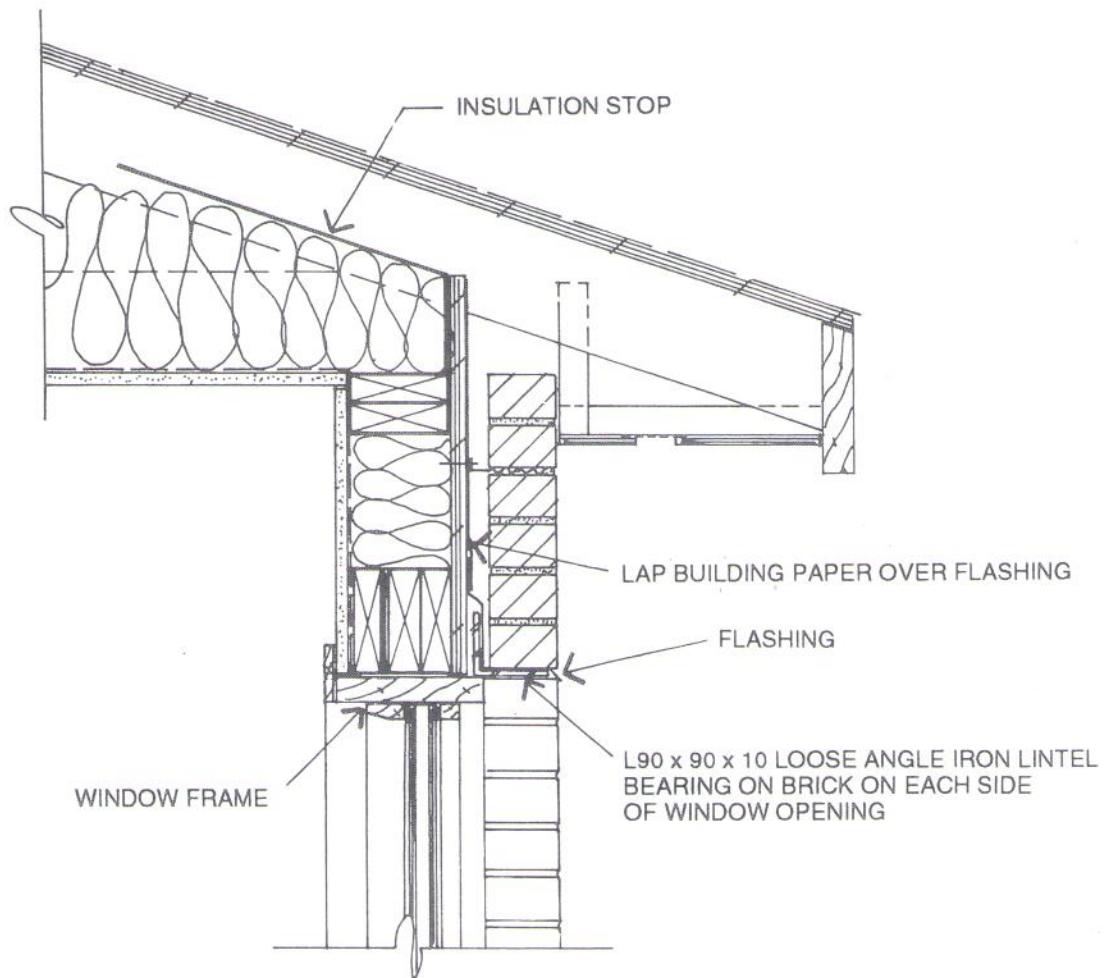

Figure 18 Window opening with loose angle iron lintel
For cavities less than or equal to 25 mm, 22 gauge corrugated strips can be used to fasten the wall to the backup system. Corrugated strips should be hot dip galvanised for corrosion protection. They should be fastened to the wood frame by means of galvanised spiral nails penetrating a minimum of 63 mm into the wood frame. The position and placing of the corrugated strip should be as shown in Figure 18, adopted from CSA Standard A370 "Connectors for Masonry".
- Figure 18 Window opening with loose angle iron lintel